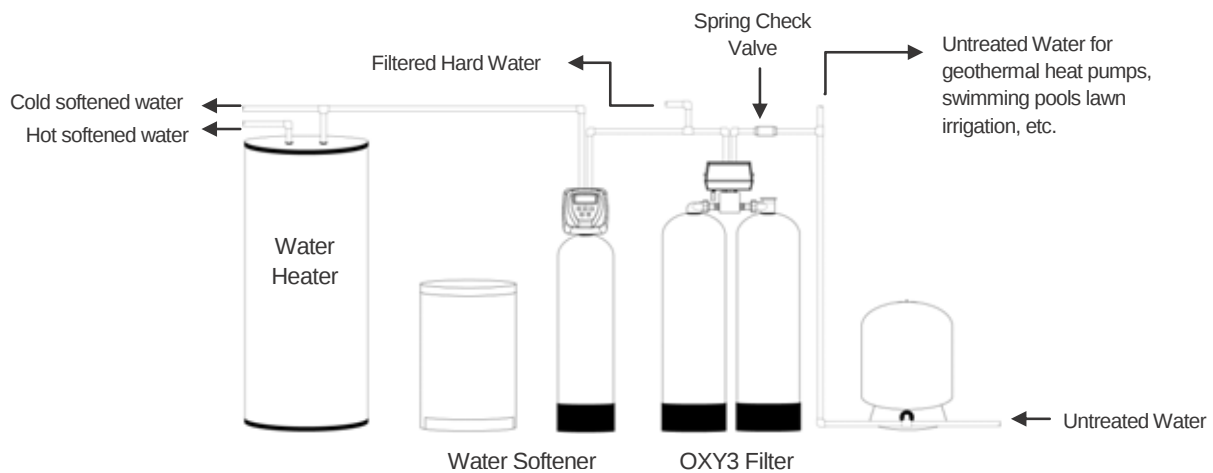

FIGURE 1: Typical Installation
7. Appliances requiring extended periods of continuous or high flow water use (i.e. geothermal heat pumps, swimming pools, lawn irrigation, outside hose bibs, etc.) should bypass the filter and a spring check valve should be installed on the filter inlet to prevent backflow from the filter (see installation diagram Fig. 1).